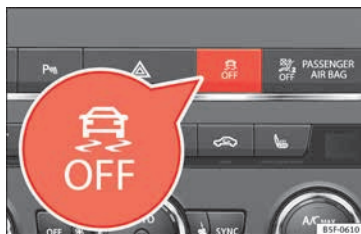

Fig. 190 Centre console: Button for switching on/off the ESC and ASR
- Press the button  **Fig. 190** for approximately 1 second to switch off the ASR function.
- Press the button  **Fig. 190** for approximately 3 seconds to switch off the Electronic Stability programme (ESC), including the ASR function.
- The ASR and ESC function are reconnected by pressing the button  **Fig. 190**.